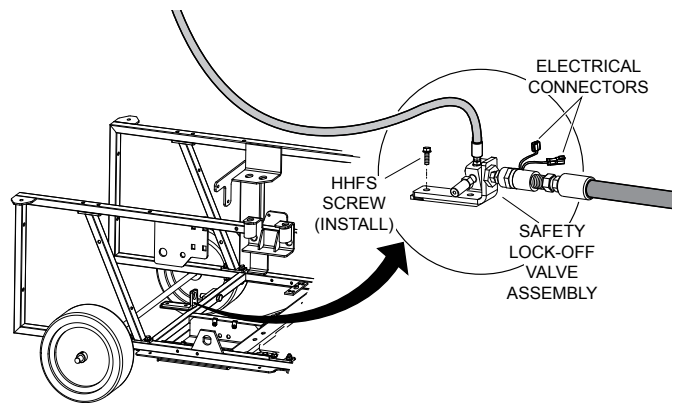

Figure 20. Safety Lock-Off Valve Installation
15. Reinstall safety lock-off valve assembly (Figure 20) in its original location. Secure valve assembly to frame with mounting hardware that was removed earlier, and tighten securely.